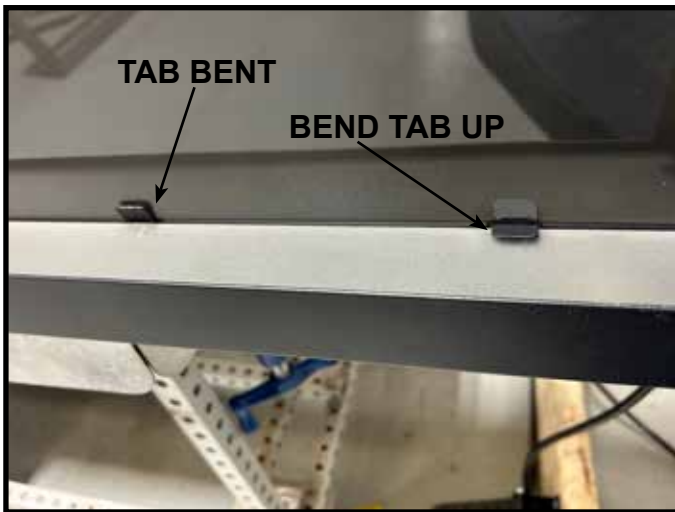

Figure 5 Ember Bed Cover Removal
3. Use Flat head Screwdriver to lift up the bent tabs holding the Ember bed cover to appliance. See Figure 5.